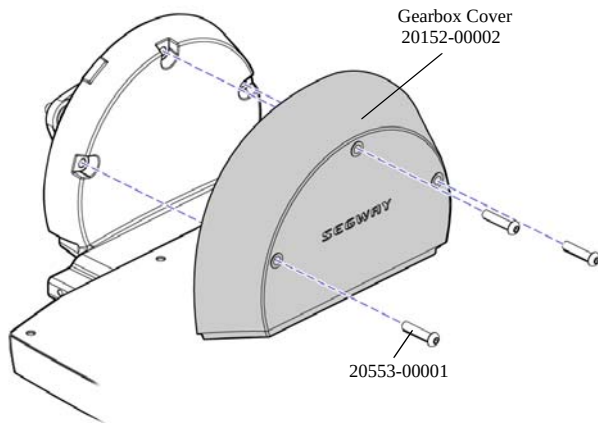

Figure 6-3: Remove Gearbox Trim Cover
3. (Model i2) Using 4mm hex wrench, loosen and remove (3) button-head fasteners from gearbox trim cover. See Figure 6-3.
4. Thread (3) button-head fasteners (20553-00001) through holes in gearbox trim cover into gearbox. See Figure 6-3.